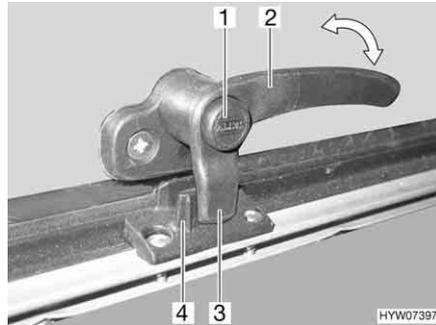
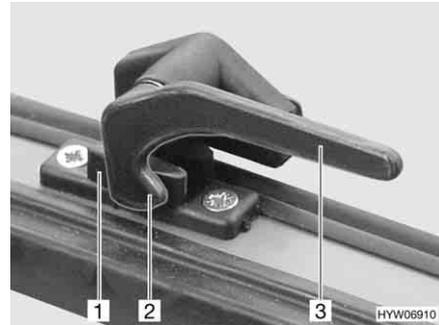

Fig. 88 Catch lever with safety knob in "closed" position
Fig. 89 Catch lever in "closed" position
- Press and hold the security button (Fig. 88,1), if present.
- Turn the catch lever (Fig. 88,2 or Fig. 89,3) a quarter turn towards the centre of the window.
- Turn the catch lever (Fig. 88,2 or Fig. 89,3) a quarter turn towards the window frame. The locking catch (Fig. 88,3 or Fig. 89,2) on the catch lever is entirely on the inner side of the window catch (Fig. 88,4 or Fig. 89,1).
- Firmly closed (Fig. 88 and Fig. 89)